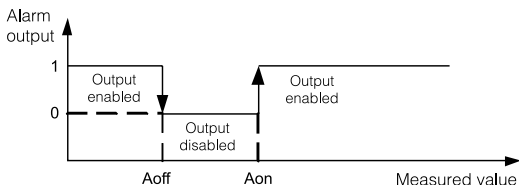

Fig. 9. Alarm types: a) n-on, b) n-off, c) on, d) off
- a) display colours of the measured value. The displayed range is divided into three zones separated by KpL and KpH values (suitably the lower threshold KpL and the upper threshold KpH of display colour change – fig.9). The colour of displayed numbers for each zone is selected from three accessible colours: green, orange and red. KpL and KpH values are set by the user and concern the displayed value (i.e. taking also into consideration the individual characteristic). The manufacturer value KpL is equal 100% of the rated value, however KpH is equal 105% of the rated value, e.g. for a 10 V meter execution they are respectively: for KpL – 10 V and for KpH – 10.5 V.
Two alarms are available in the N20PLUS meter. Both alarms are working independently and each of them has 6 working modes: n-on, n-off, on, off, hon and hoff, which are presented on the fig. 9. Alarm thresholds Aoff and Aon are set in values of the measured quantity taking into consideration the individual characteristic. In manufacturing conditions both alarms are set on the n-on mode.